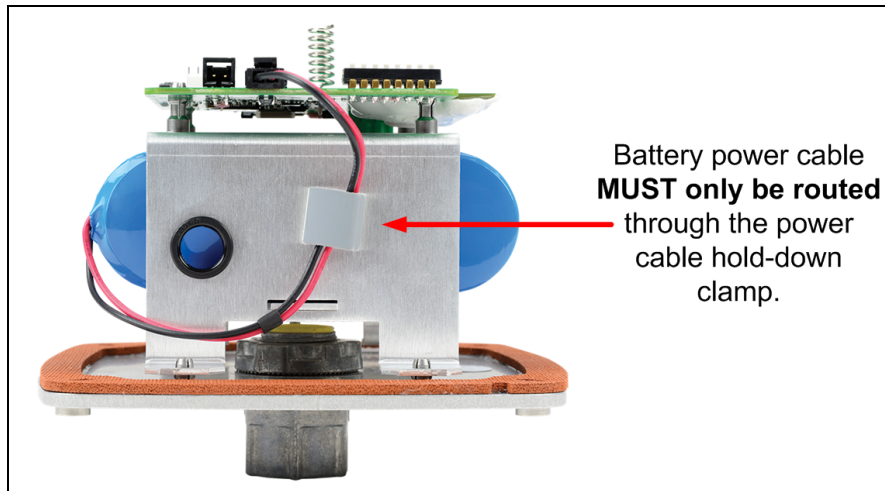

Figure 2: Battery Power Cable through the Power Cable Hold-down Clamp
3. Verify the battery power wire is routed through the power cable hold-down clamp. (Figure 2)
2. Verify the battery power wire is routed through the power cable hold-down clamp. (Figure 2)